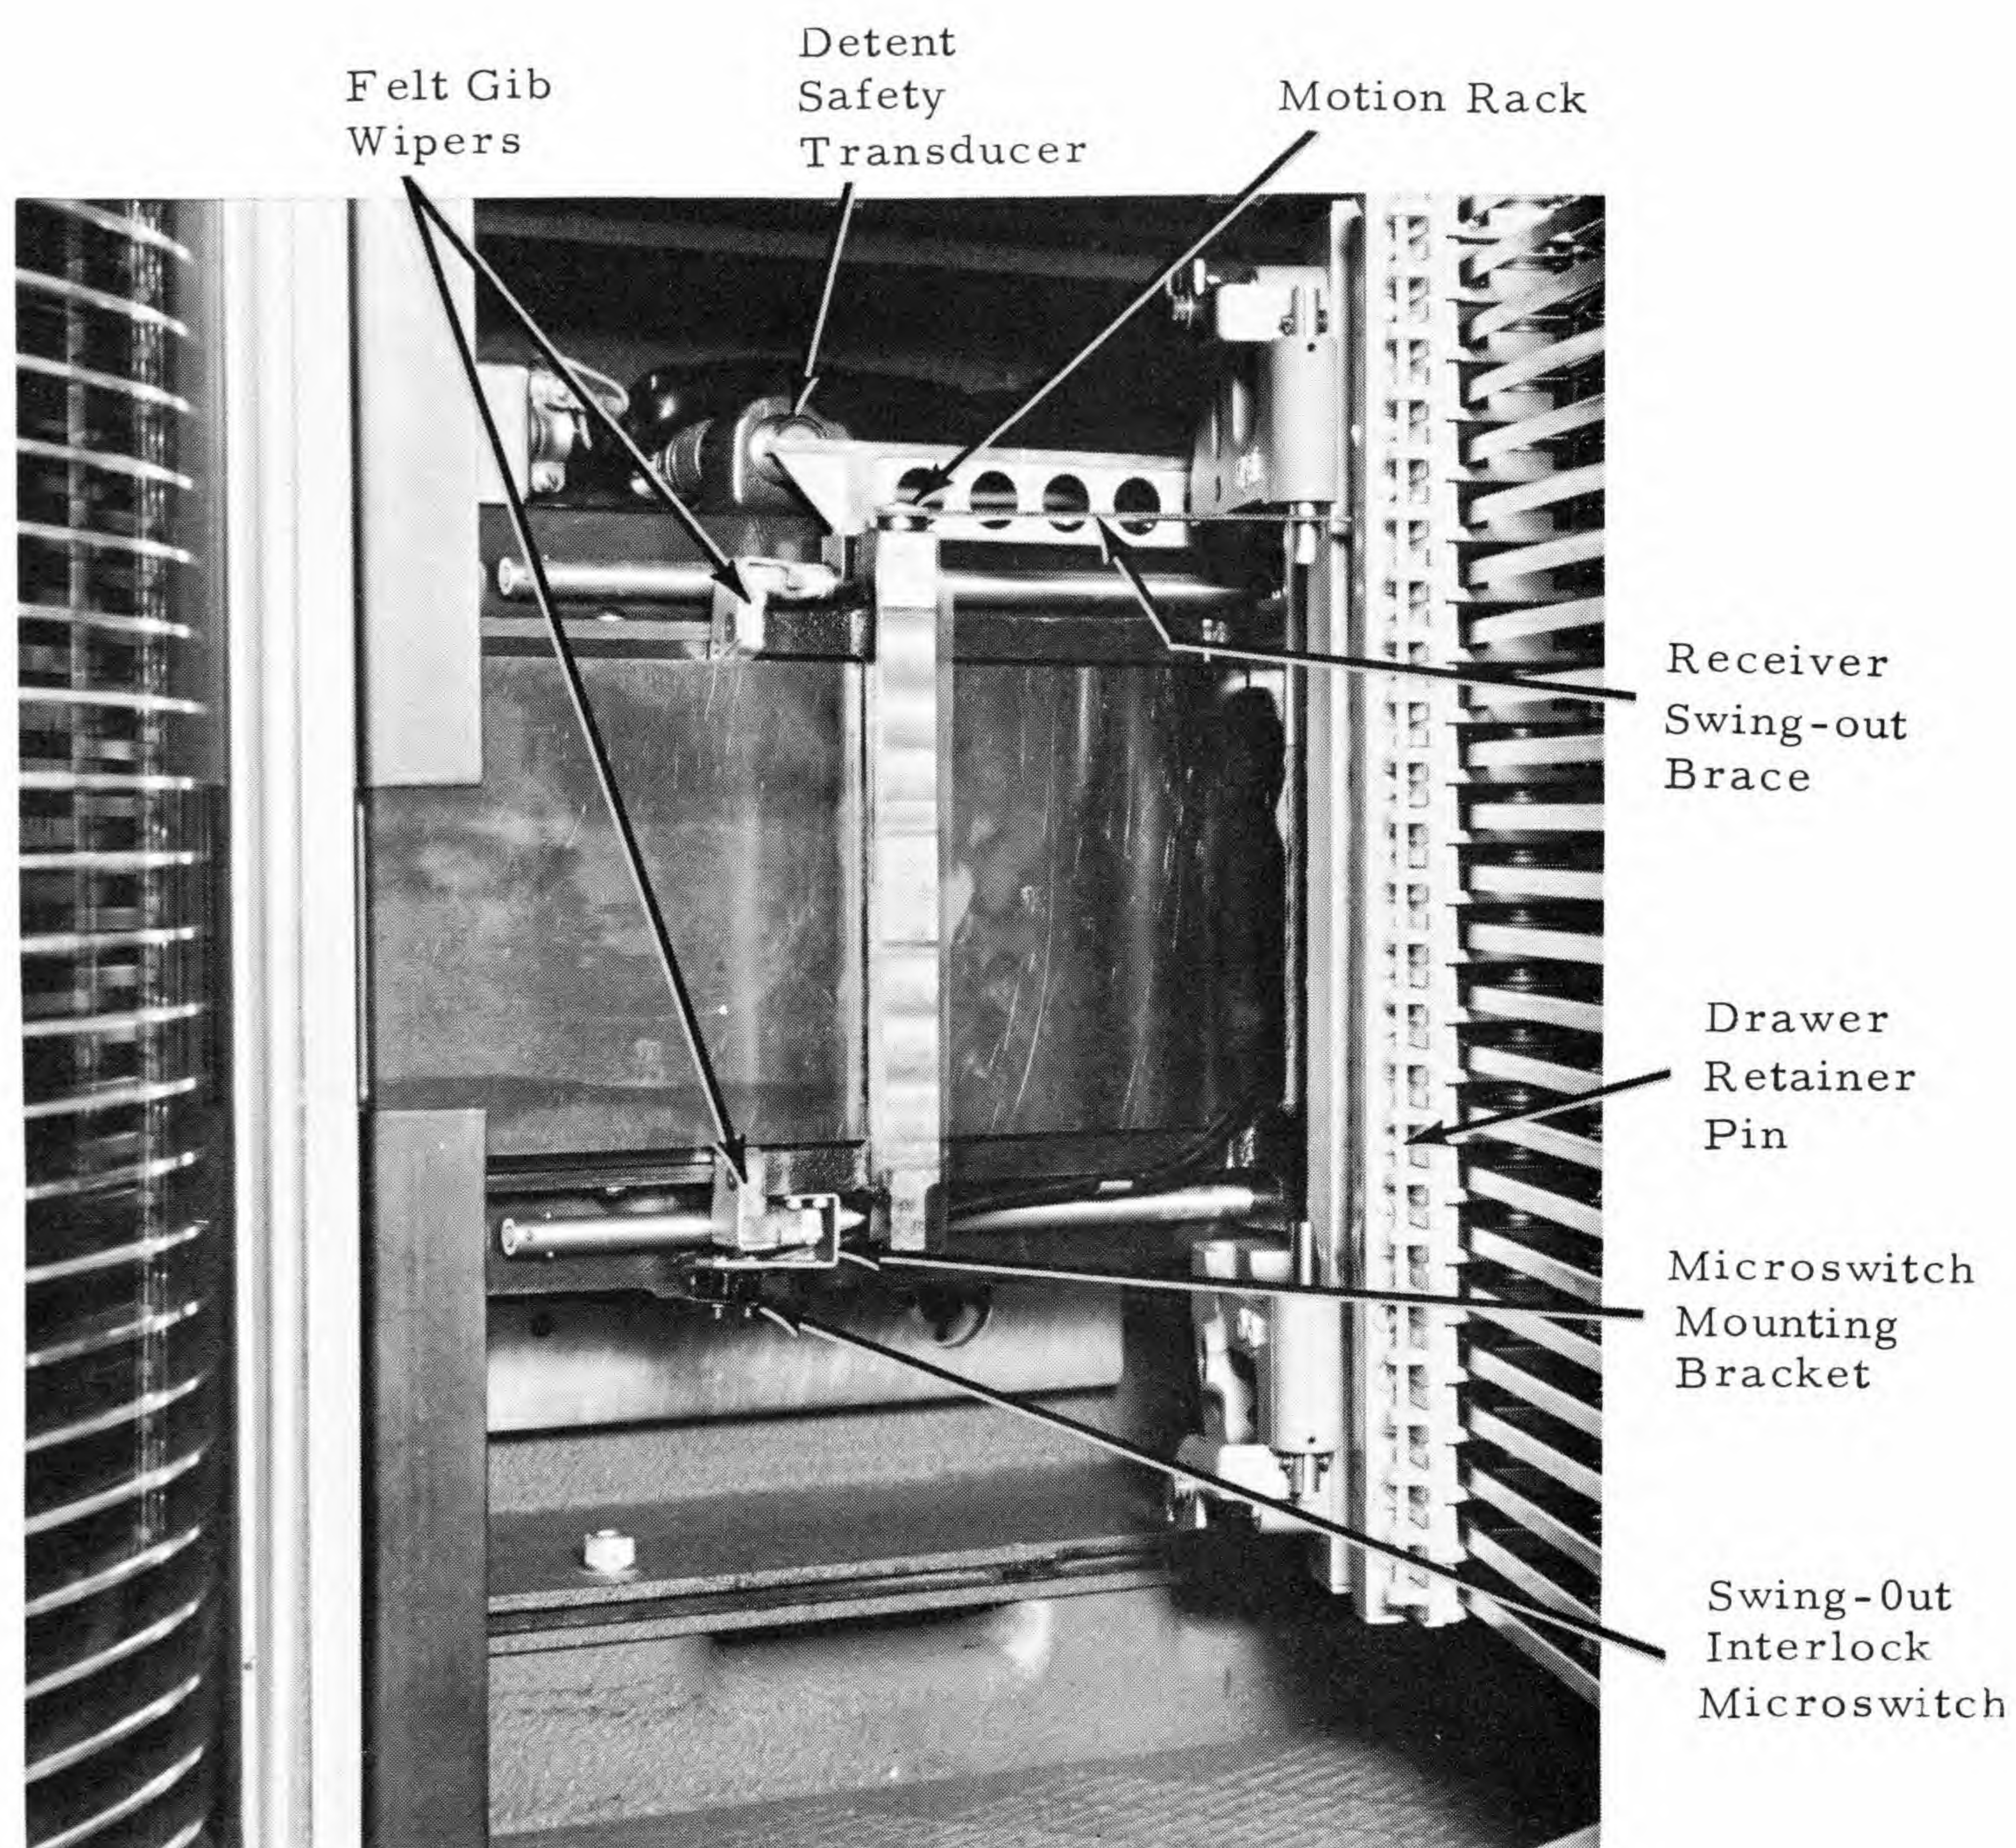

Figure 3-16 Receiver in Servicing Position
3. Remove drawer retaining rod. (Figure 3-16)